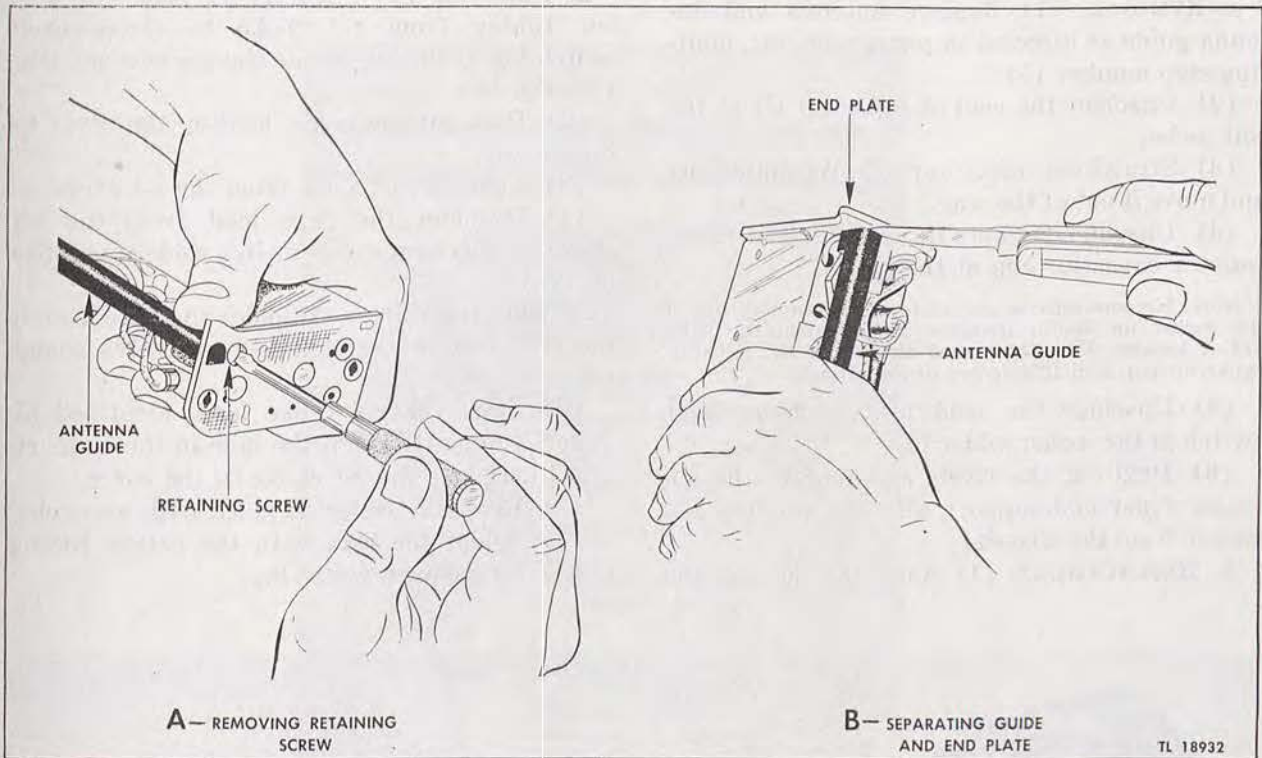

Figure 44. Antenna removal, Radio Receiver and Transmitter BC-611-(*).
a. REMOVAL. (1) Remove antenna insulator support assembly as indicated in paragraph 36*a*.
(2) Remove antenna guide retaining screw, as indicated in figure 44*A*.
(3) Place knife blade or a thin screw driver between the antenna guide and chassis end plate, and separate the guide locating plug from the end plate locating hole. (See fig. 44*B*.)